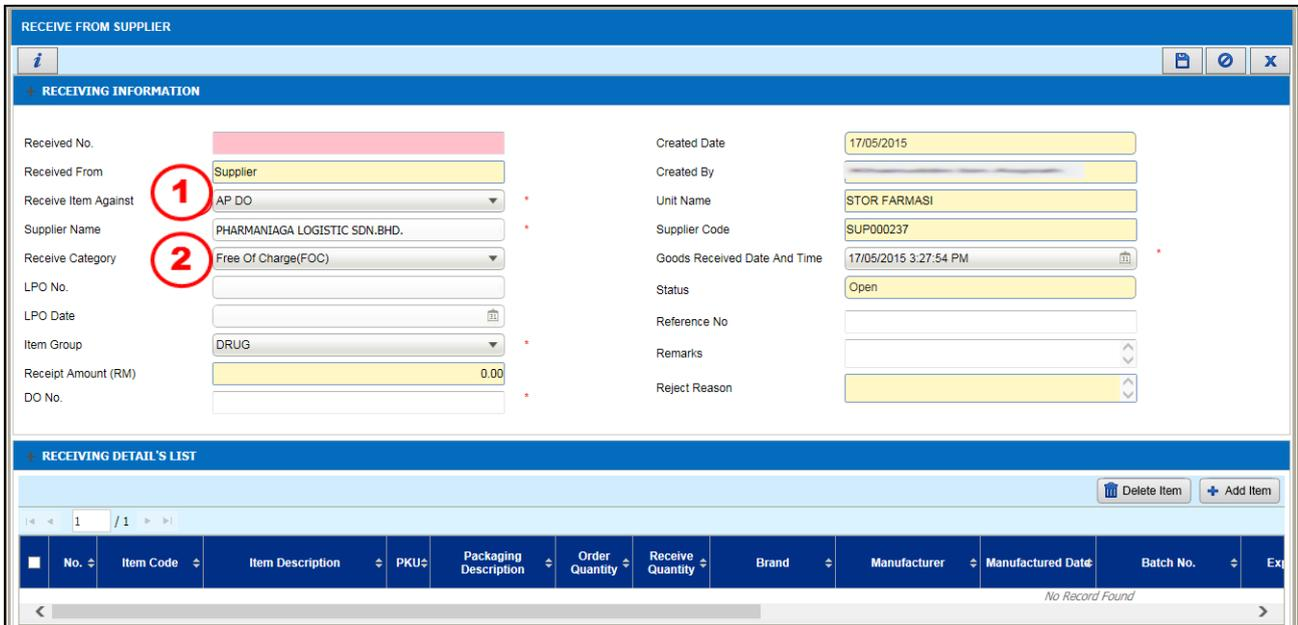

Figure 4.1.4-1 Receive from Supplier
- Refer to Figure 4.1.4-1 to create a new Receive from Supplier transaction.